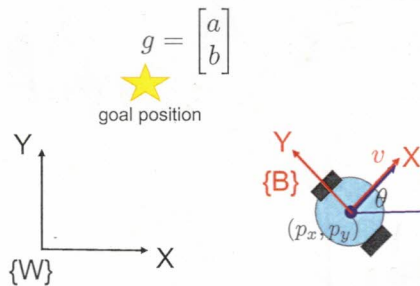

Figure 1: Scenario for Problem 1
- (i) Design a feedback control input u to make the robot position $\begin{bmatrix} p_x \\ p_y \end{bmatrix}$ converge with **zero error** to the goal position $g = \begin{bmatrix} a \\ b \end{bmatrix}$ as shown in Figure 1. **Note:** robot's orientation at the goal position can take any values. (2 points)